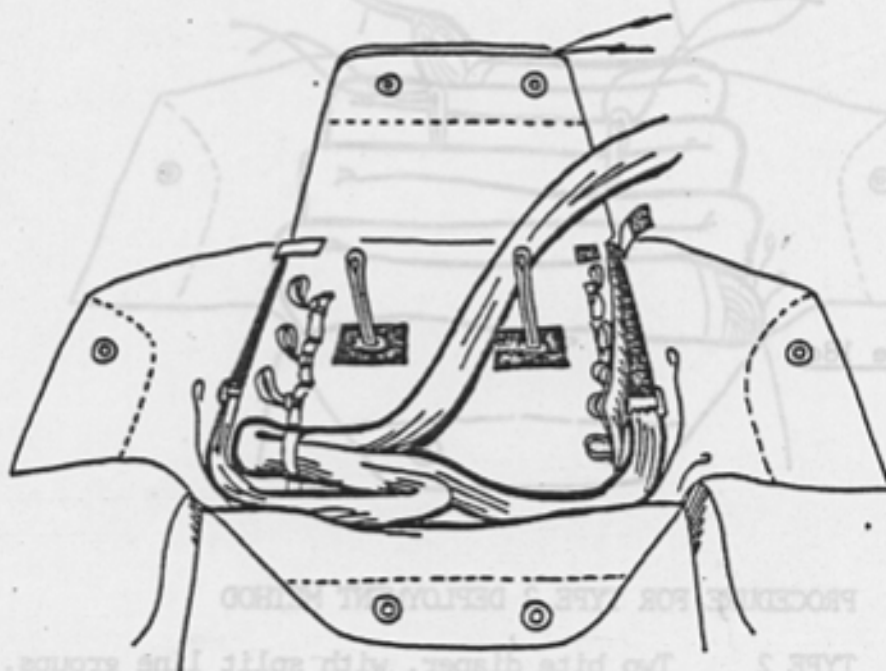

Figure 18A
6.2 TYPE 1 Canopy first deployment, lines stowed horizontally in the container tray. Figure 18a, 18b and 18c.
The lines are stowed on the tray of the reserve container. Commence stowing at the bottom back corner (Figure 18a) and stow towards the top, using good quality rubber bands.